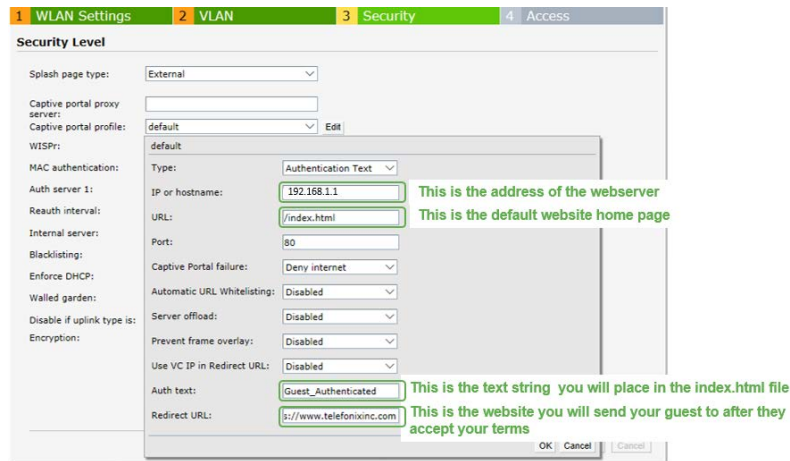

Figure 7-6: External Captive Portal Settings
- In the **Security** tab, select **External** for *Splash Page Type*, and then select the **Edit** button to edit the default *Captive Portal Profile* as shown below in Figure 7-6.